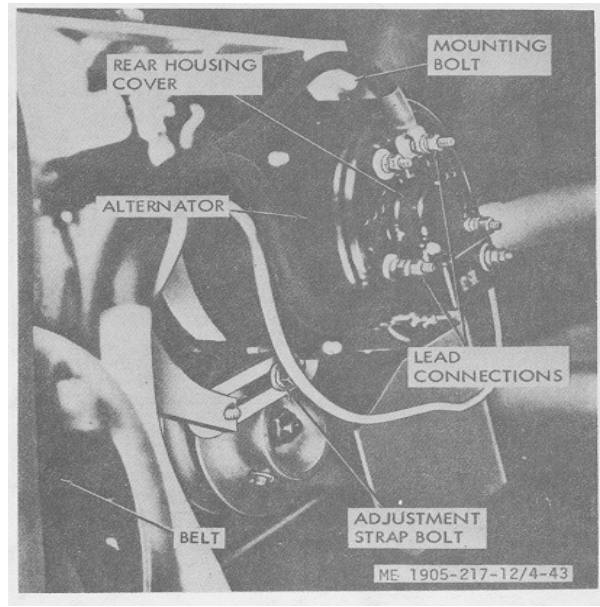

Figure 4-43. Alternator, removal.
d. *Alternator Removal (fig. 4-42 and fig. 4-43) for Hull Numbers 8540 thru 8560 and 8580 thru 8618.*
Alternator illustrated in figure 4-43 is mounted on the inboard engine of the starboard propulsion unit on hull numbers 6500 thru 8519. Alternators on port propulsion units and alternators on hull numbers 8620 thru 8560 and 8580 thru 8619 are mounted differently but removal procedure are similar.
- (1) Remove alternator rear housing cover (fig. 4-43).
- (2) Remove screws or clips from terminals.
- (3) Lift brush assembly up and away from the slip rings.